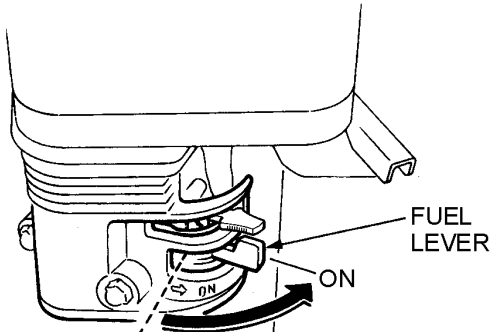

Figure 18. Engine Fuel Valve Lever
3. Place the fuel valve lever (Figure 18) to the "ON" position.